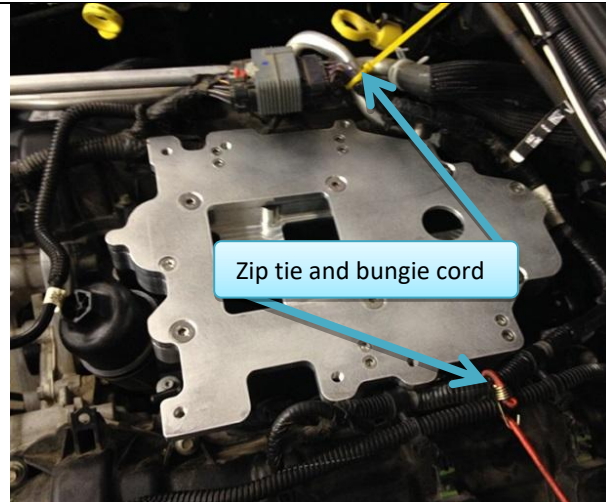

Figure 46: Supercharger intake plate installed with yellow zip tie and red bungee cord holding back wires.
31.2. Use bungee cords or zip ties to hold wires away from intake adapter to ease install of intake plate (Figure 46)